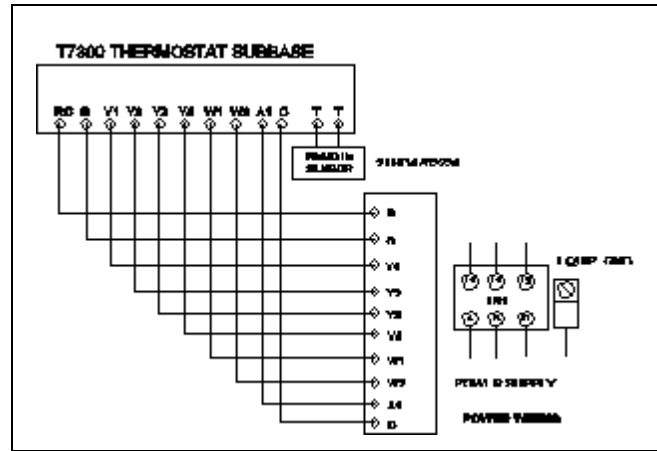

FIGURE 3 : TYPICAL THERMOSTAT WIRING
The new thermostat requires a thermostat cable with a minimum of 10 conductors that run from the sub-base to the control box. The new wire will be connected as shown in Figure 3.
12. Attach thermostat wires to new location TB12 (See Figure 3).